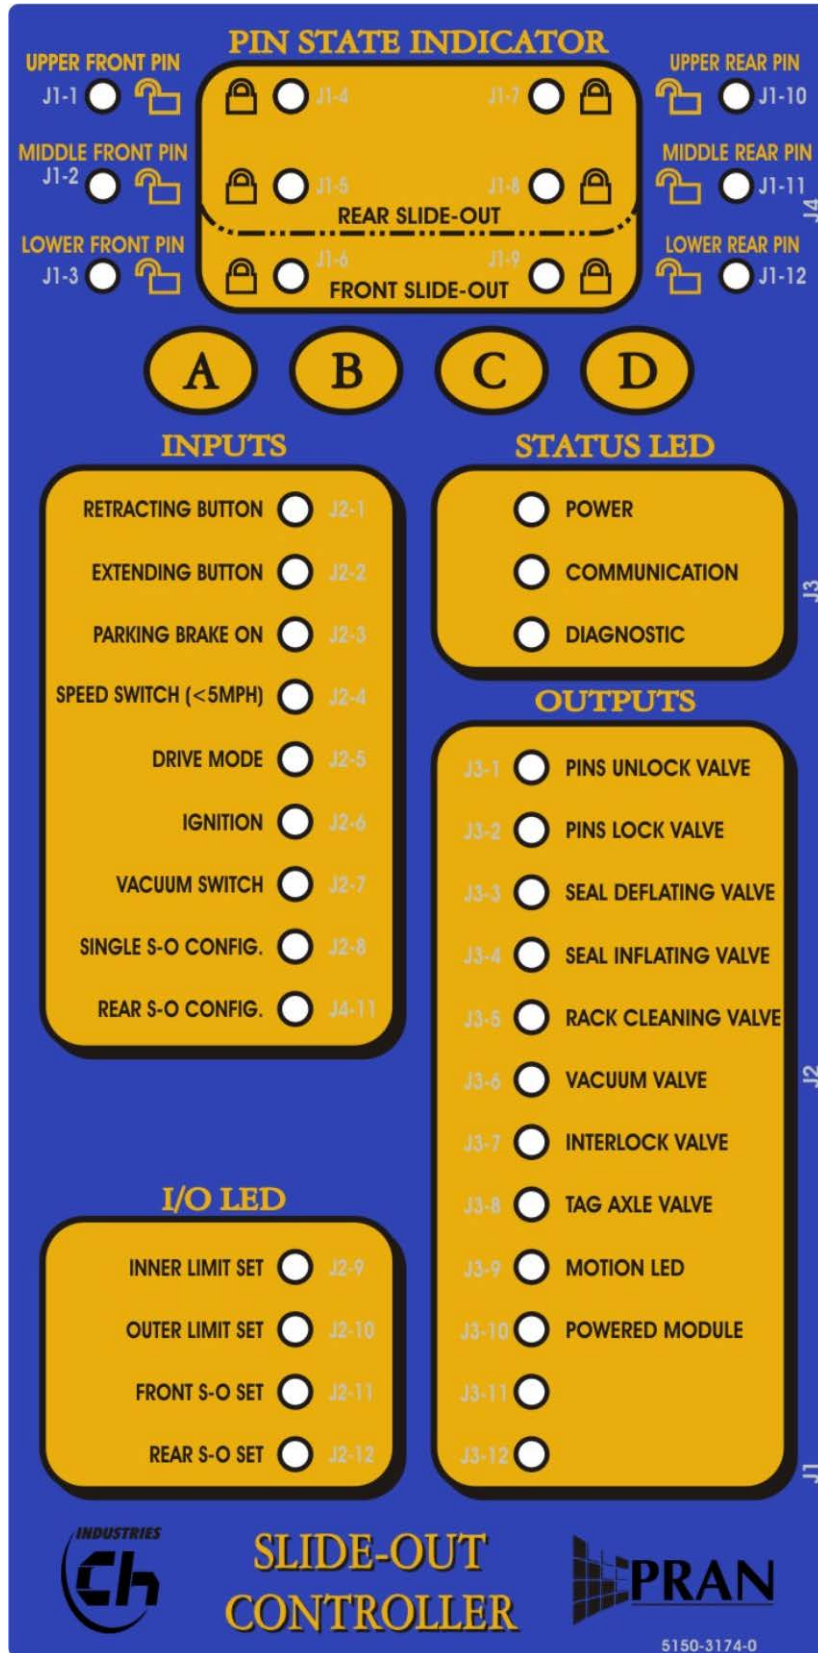

FIGURE 20 : SLIDE-OUT LOGIC CONTROLLER INTERFACE DISPLAY
9. When the retraction procedure is completed, if the parking brake cannot be released to move the vehicle, verify that at least one pin is locked on each slide-out. To do so, check the lights (12) on the "PIN STATE INDICATOR" zone of the logic controller interface display (refer to figure 20). A light next to all padlocks is used to identify the state locked or unlocked of the pins. For the rear slide-out, take note that only 4 pins are used in the upper section of the pin state indicator zone. With the ignition key to the "ON" position, verify if at least one pin locked light is "ON". Otherwise, go back to step 7 of this section to manually lock all the pins until all pin locked lights go "ON".
- C) Verify if all the pins are unlocked with the ignition to the "ON" position. To do so, check the lights on the "PIN STATE INDICATOR" zone of the logic controller interface display (refer to figure 20). A light next to all unlocked padlocks is used to identify the state unlocked of the pins. For the rear slide-out, take note that only 4 pins are used in the upper section of the pin state indicator zone. If at least one light is off, that means all the pins are not unlocked and it will not be possible to manually move the slide-out. In this case, restart the engine and make sure the air pressure is 110 PSI minimum on the auxiliary air pressure gauge (figure 4)